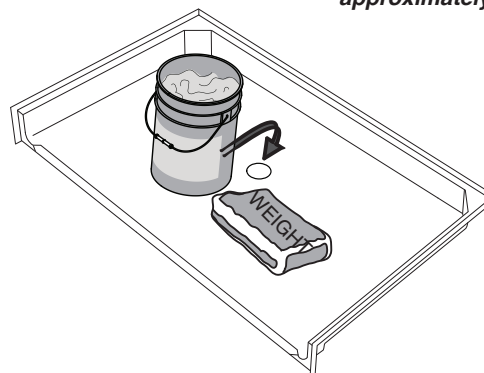

Figure 11
- 7** PLACE 50 POUNDS OF WEIGHT on top of the drain, as shown in Figure 11 to ensure the unit is making contact with the epoxy.